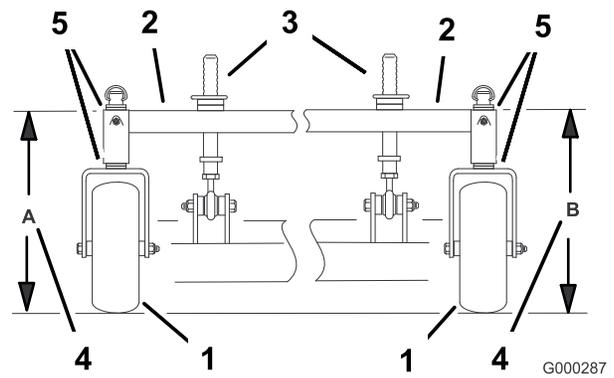

Figure 72
4. Measure carrier frame height at location **A** (Figure 72).
5. Measure carrier frame height at location **B** (Figure 72).